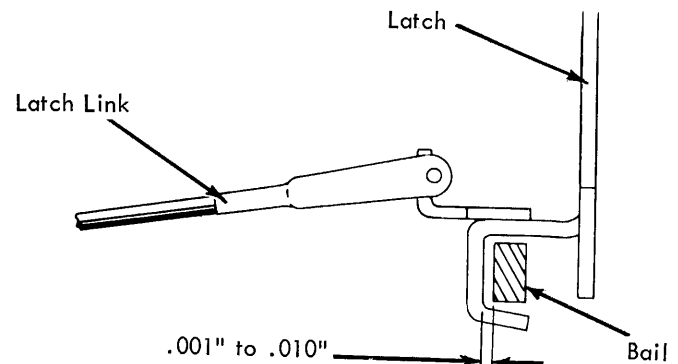

FIGURE 23. Check Latch Link
- c. Check Latch Link - With the machine at rest adjust the check latch link so that the check latch clears the bail by .001" to .010" (Fig. 23).